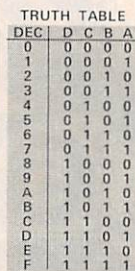

Fig. 3. Decimal keyboard binary coding and switch debounce circuitry.
Circuit Options. Your particular application might not require the high output power and/or continuous play capability of the circuit shown in Fig. 1. Therefore, a low-power output stage (Fig. 2) and an automatic cutoff circuit (Fig. 3) are possible options.
The circuit shown in Fig. 3 illustrates the use of the debounce circuit with a BCD coding scheme. A function truth table is also shown. You may be surprised to see a hexadecimal table for a 10-key array. If you wish to obtain a hex A (10),
Referring back to Fig. 3, when all keyswitches are open, their associated AND gate (IC1 through IC3) inputs are high. Hence, the outputs of the four encoding NAND gates (IC7 through IC9) are low. Closing any keyswitch except 0 forces at least one of the NAND gate inputs high.
The bounce-inhibit circuit uses a 4-input NOR gate (IC10A) to trigger bounce-inhibit monostable multivibrator IC11. When any of the four NOR gate inputs go high (any key closed), the output of the NOR gate goes low and triggers the multivibrator. The multivibrator, in turn, sends a low signal to the OR gate associated with each key. This implements the debounce function. For the RC values given in Fig. 3, the debounce period is about 700 ms. For the 74121 monostable multivibrator, the timing equation is $T = 0.69RC$, with R kept at a value of less than 40,000 ohms.
The circuit remains in the debounce condition and ignores any switch bounce until the monostable multivibrator times out. When this occurs, the circuit resets back to where another key can be operated. Note in Fig. 3 that the multivibrator also produces a "sync" signal in exact time step with the input pulse. This is for use with an external counting or other enabling circuit.